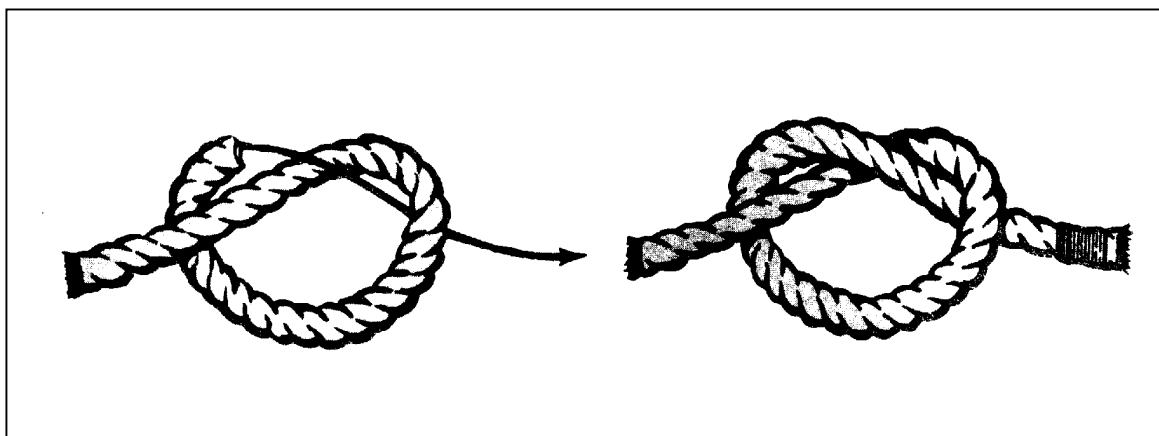

Figure 11-1. Overhand knot
- a. Overhand Knot. The overhand knot (Figure 11-1) is the easiest knot to make and the most frequently used knot. It is used to keep the end of a tent line from slipping through the center of a grommet.
- b. Footstop for a Single-Grommet Fastening. A footstop for a single-grommet fastening (Figure 11-1), is a loop in a line that slips over a footstop pin at the bottom of a tent. It is formed by tying the two ends of a footstop line in a single overhand knot.
- c. Footstop for a Two-Grommet Fastening. A footstop for a two-grommet fastening is formed by tying an overhand knot, (Figure 11-1 }, at each end of a footstop line.